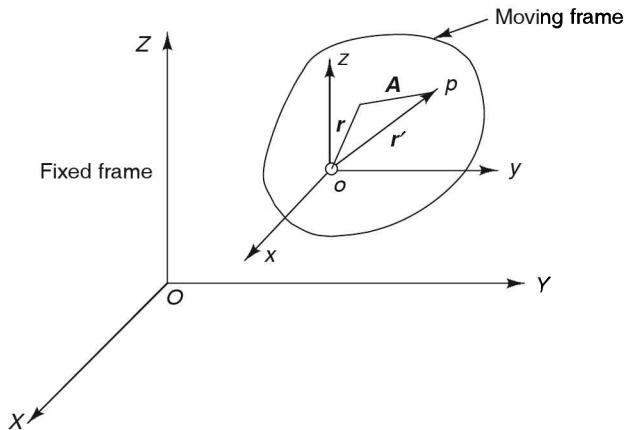

FIGURE 13.5 A vector located on a moving frame.
- (e) *Derivative of a vector A located on a moving frame.* Consider a vector A located on a moving frame which is rotating with angular velocity $\boldsymbol{\omega}$. If the position vectors specifying the start and the end of the vector A are \mathbf{r} and \mathbf{r}' as shown in Figure 13.5, then we have